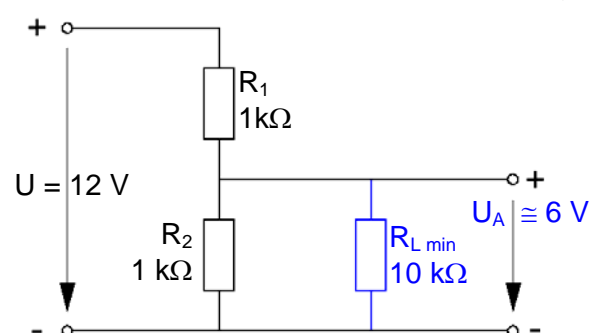

Fig. 3.11.2.1:
The voltage divider shown in Fig. 3.11.2.1 is to provide half of the input voltage  $U = 12 \text{ V}$  as an output voltage  $U_A = 6 \text{ V}$  (therefore,  $R_1 = R_2$ ). Irrespective of the loading variations due to different consumers ( $R_L$ ), the following conditions should be observed:
- Assemble the circuit in Fig. 3.11.2.1 on the Electronic Circuits Board (Notes on assembly will be found in section 3.11.3). Apply a voltage of  $U = 12\text{ V}$  to the input of the voltage divider (check the input voltage on a multimeter).